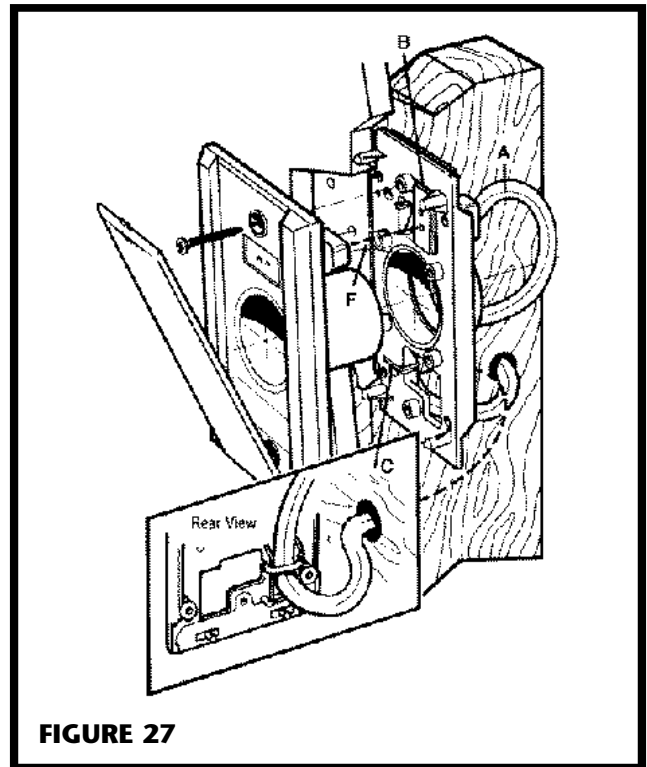
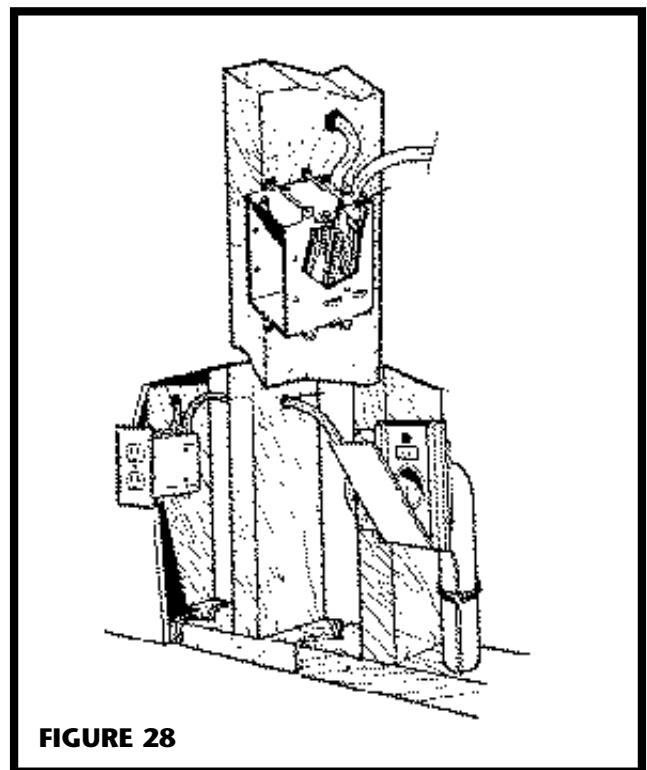

FIGURE 27
FIGURE 28
1. See Figure 27. Fasten the mounting plate to a stud within three studs (48") of an electrical outlet box. Measure and mark the wire 10" from the plug (A). Feed the wire through the top hole in the mounting plate (just above the circular opening). Snap the molded plug into the mounting plate as pictured (B). This will keep it secure and out of harm's way during drywalling and finishing. Line up the wire at the previously measured 10" mark with the strain relief channel on the back of the mounting plate. Secure it in place with the supplied wire tie (C).
2. Run the inlet wire to the adjacent electric box. If you must run wire through a stud, drill directly through the center of the stud (D).
3. See Figure 28. Place the exposed ends of the two wires into the electrical box through a strain relief channel (E). Tighten the strain relief channel (do not overtighten) on the white sheathing leaving 1/2" of this sheathing exposed inside of the outlet box.